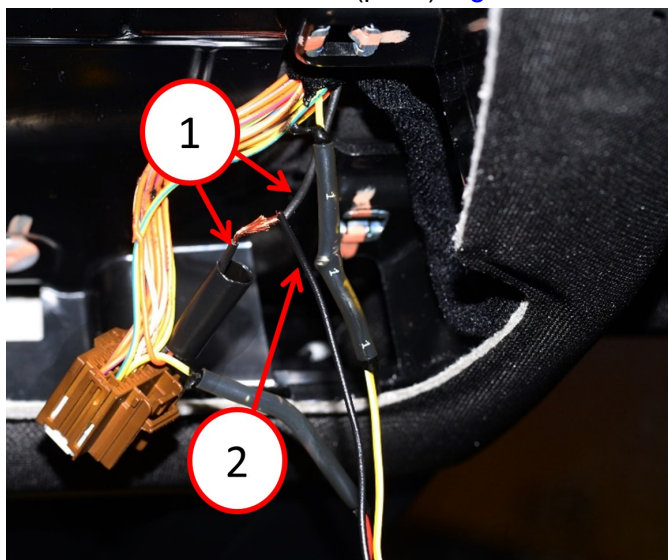

Fig. 6
16. Cut the dome lamp wire connector harness black wire (pin 2) Fig. 6.
17. Position heat shrink onto one of the black wires and connect all three black wires Fig. 6. **Do not heat the heat shrink tubing.**
18. Solder all three black wires from the jumper harness and the dome lamp wire harness black wire Fig. 6.